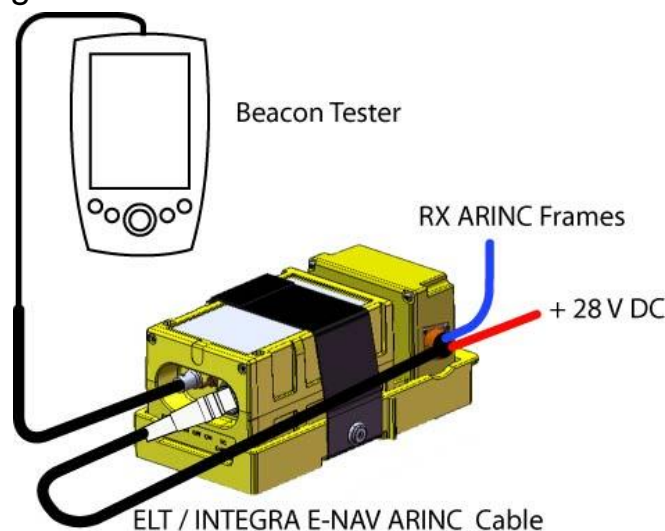

Figure 6: Beacon Tester Connection with ELT
2. Connect a Cospas-Sarsat tester to the antenna socket of the ELT as shown on figure 6 below: